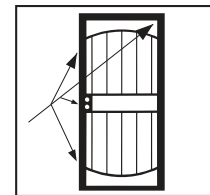

FIGURE 6
6. Mount lock-side jamb to door frame jamb. Drill holes. Fasten lock-side jamb to the house, using the **one-way security lag screws**. **Tighten lag screws only halfway** at this time. When you are satisfied with the position and operation of the security door, tighten lag screws securely to the house (Fig. 6).